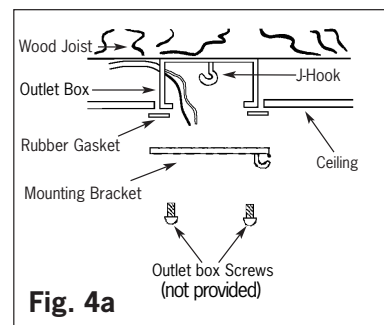

Fig. 4a
**For model Calibre: Fig.4a and 4b**